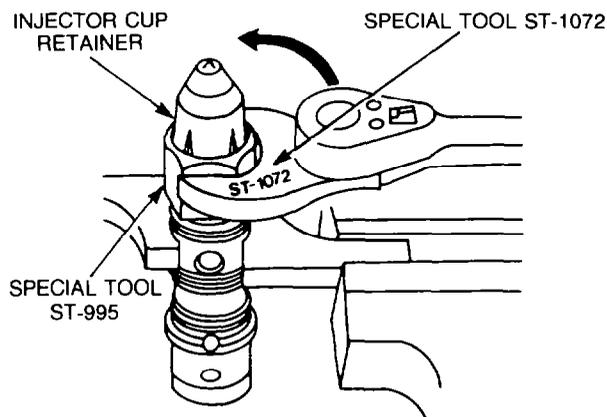

Figure 77 — Injector Cup Retainer — Removal
- j. Place the injector into the injector body wrench 3375102 with the injector cup (item 21) uppermost, then position special tool ST-995 on the injector cup retainer (item 22). Using special tool ST-1072 on special tool ST-995, loosen the cup retainer (see Fig. 77), then remove the retainer.